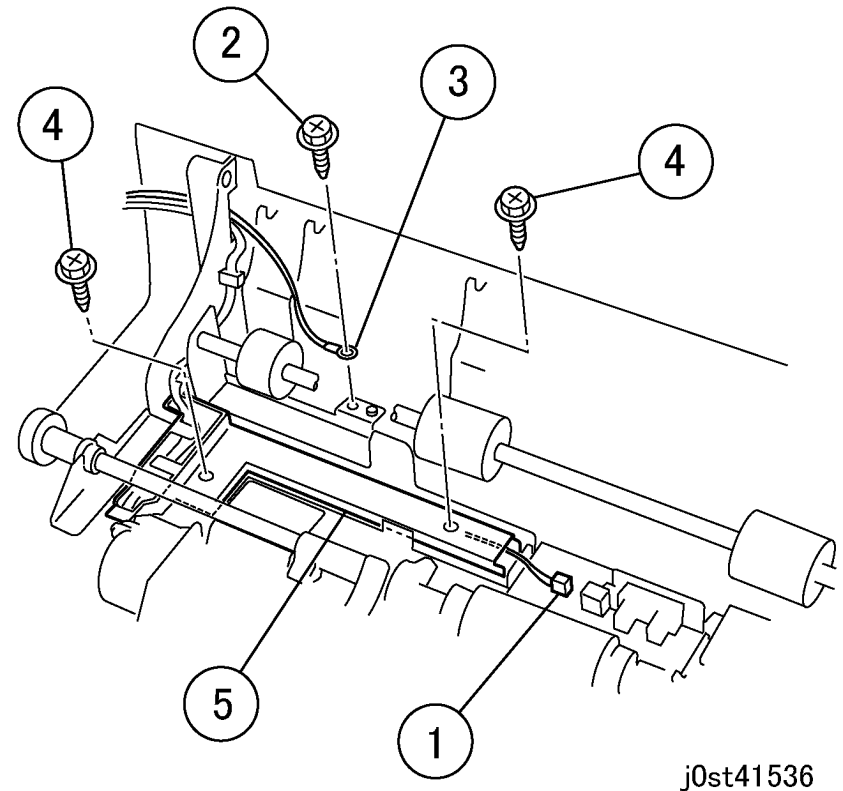

Figure 5 Unfastening the Wire Harness (j0st41536)
7. Unfasten the Wire Harness. (Figure 5)